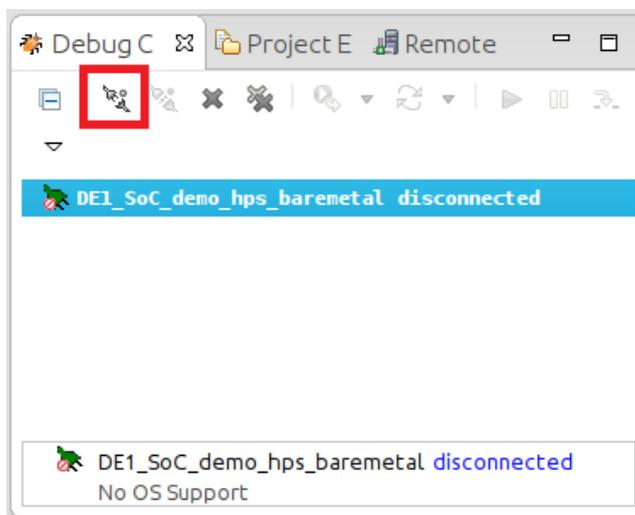

Figure 12-14. Debug Control View
21. In the “Debug Control” view, click on the “DE1\_SoC\_demo\_hps\_baremetal” entry, then click on the “Connect to Target” button, as shown on Figure 12-14. Our debug script will load and execute the preloader, then it will load and wait at our application’s “main( )” function.